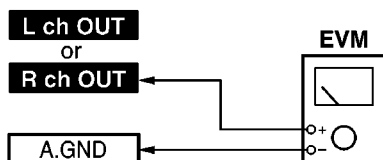

Fig. 13-6.
1. Connect the measuring instrument as shown in Fig. 13-6.